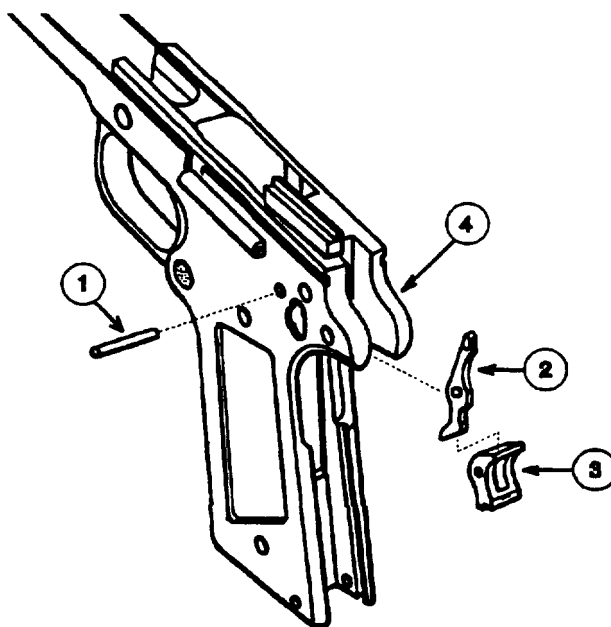
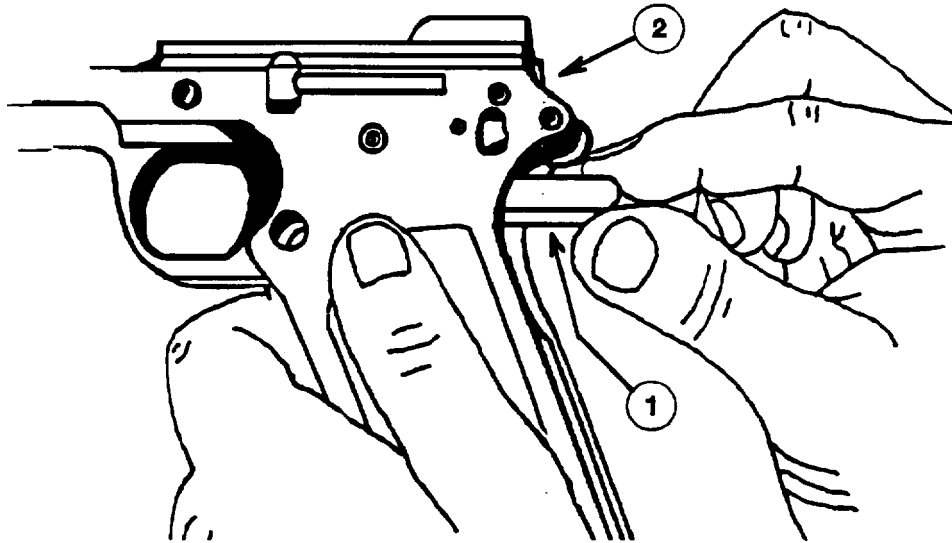

Figure 6-28. Removing Sear Pin
Figure 6-29. Removing Trigger
(13) Using a 3/32" punch, push sear pin (1), Figure 6-28, out of the left side of the pistol.
(14) Lift and remove the disconnecter (2), Figure 6-28, and sear (3) as a group from the receiver assembly (4).
(15) Remove magazine catch group by following the procedures outlined in para 6-5 of this Manual.
(16) Remove trigger (1), Figure 6-29, from receiver assembly (2).
(1) Using a flashlight and jeweler's eyepiece, perform a technical inspection on the receiver housing (2), Figure 6-29. Check for wear or burrs in the slide mating grooves. Inspect for deformation, pits, bulges or distortions. Check slide stop notch for oversize or wear. If any of these conditions can not be corrected, evacuate the pistol to special fifth echelon maintenance for replacement of the receiver housing. Shipping procedures are outlined in para 4-10 of this Manual.
(10) Inspect sear pin (1), Figure 6-28, for wear and burrs. If unserviceable, replace sear pin.
(11) Inspect disconnecter (2), Figure 6-28, for burrs or wear. If unserviceable, replace disconnecter.
(12) Inspect sear (3), Figure 6-28, for worn or chipped tips or worn lugs. If unserviceable, replace sear.
(14) Inspect trigger (1), Figure 6-29, for burrs or wear. If unserviceable, replace trigger.
(3) Place trigger (1), Figure 6-29, inside receiver assembly (2).
(4) Install the magazine catch group by following the procedures outlined in para 6-5 of this Manual.
(5) Place disconnecter (2), Figure 6-28, inside the sear (3) and install them both as a group into the receiver assembly (4).
(6) Use your hand to push the sear pin (1), Figure 6-28, from the left side of the pistol to the right.